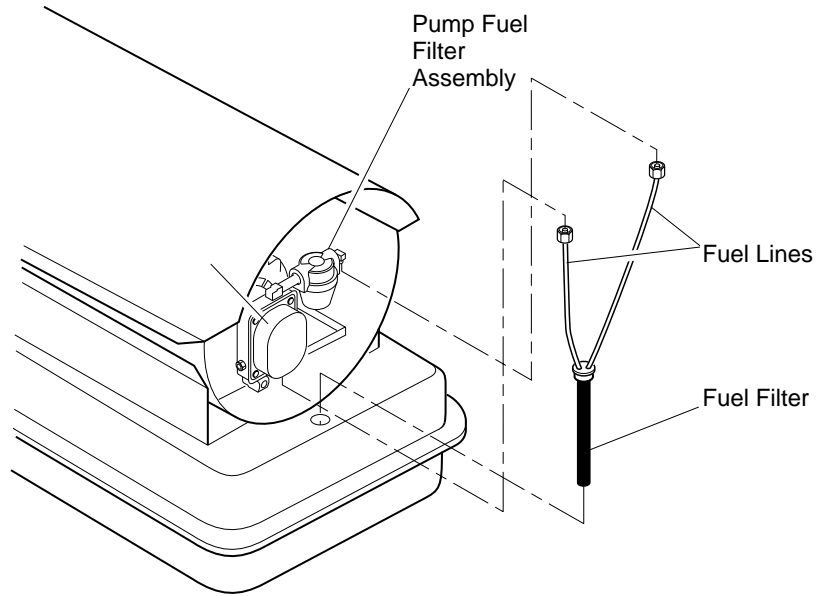

Figure 14 - Removing Tank Fuel Filter
1. Disconnect fuel lines from pump and pump fuel filter assembly with 7/16" wrench (see Figure 14).